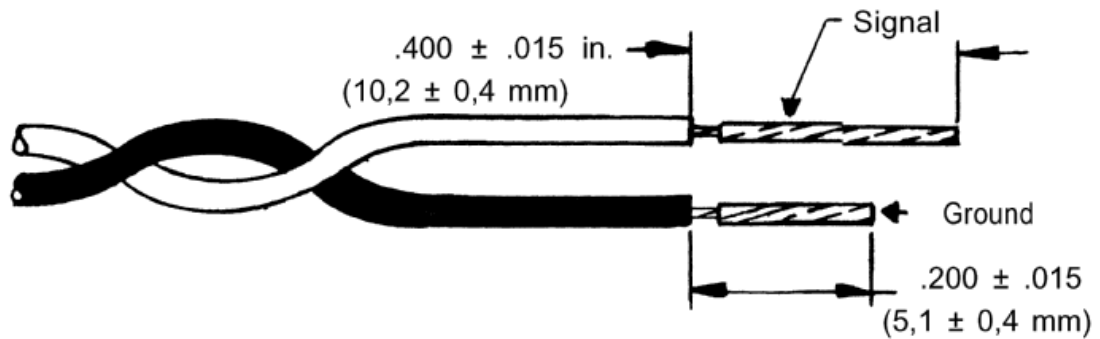

FIGURE 4
- 5.1.5. Trim the signal and ground conductors per Figure 4 using AD-1297 or AD-1298 trim tool.